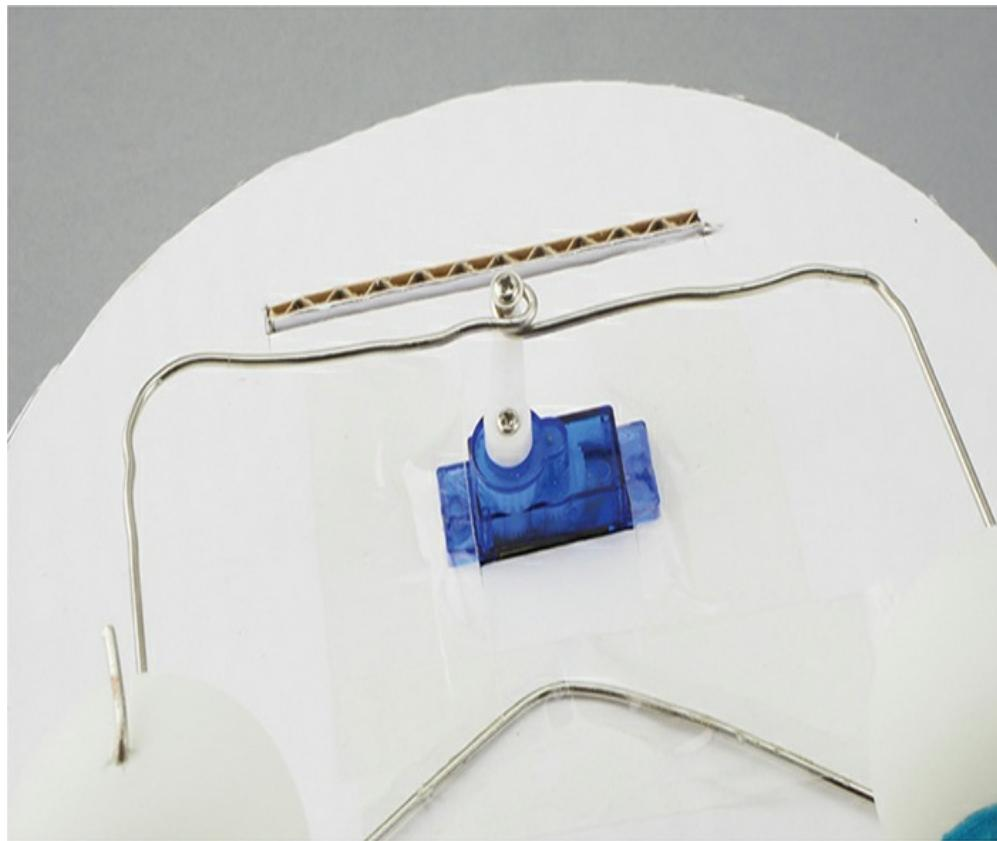

Figure 6-20: Fitting the servomotor–eyeball connector to the card
19. Adjust the connector by bending the paper clip until the arms are the same distance apart as the holes in the backs of the eyeballs. Then, hook the wire into the backs of the eyeballs. Use one of the screws provided with the servomotor to fasten the loop to the tip of the servomotor's arm, as shown in Figure 6-20. Depending on how snugly the servomotor fits its cutout in the top card, you may need to tape down the motor to prevent it from moving.